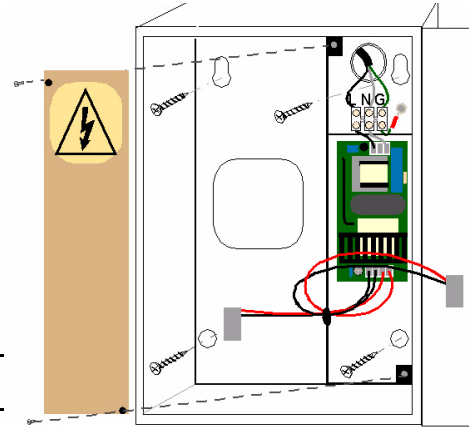

FIGURE 12: Power Supply access
- 1 Inside the LE3/PSENCL, remove the power supply cover to access the upper right mounting hole (Figure 12).